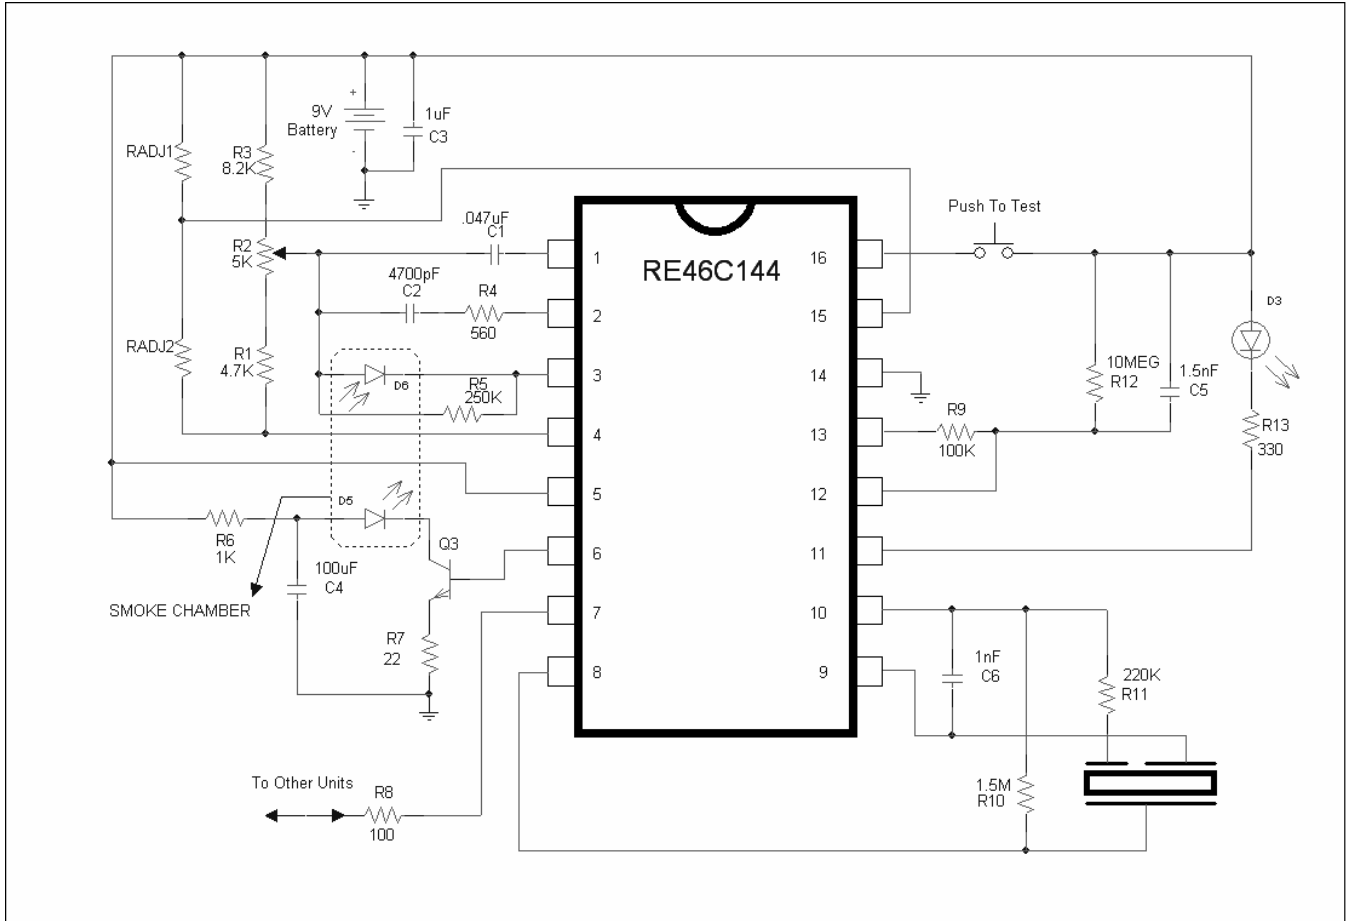

Figure 2
AC Electrical Characteristics at TA = -25° to 75°, VDD=9V, VSS=0V, Component Values from Figure 2 ;
**~~The application of the internal 10 minute timer for reduced sensitivity as shown in Figure 2 may be covered by United States patent RE-33920.~~**
The oscillator period is determined by the values of R9, R12 and C5 (see typical application FIG 2). The oscillator period  $T = T_R + T_F$  where  $T_R = .6931 * R12 * C5$  and  $T_F = .6931 * R9 * C5$